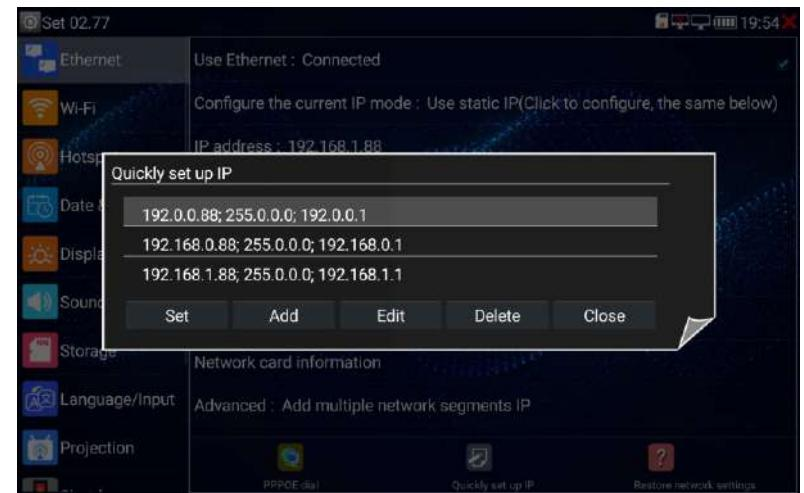

Figure 45
3. Touch the icon in the bottom to set IP quickly, rapid IP setting enables you to add, edit and delete common used IP, touch the icon in the bottom to restore default network settings, as shown in Figure 45